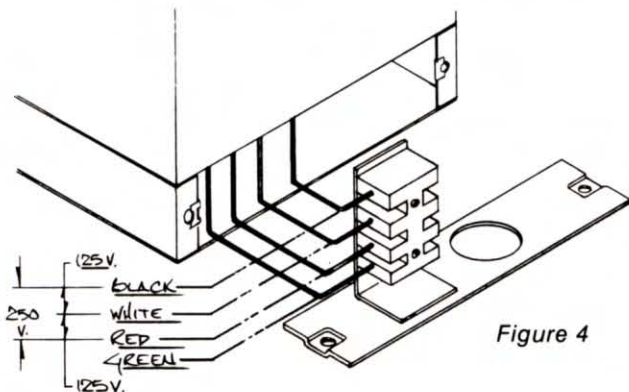

Figure 4
NOTE: Line connections to machine must conform to local codes. See Figure 4, and wiring note.
2. For units requiring electrician installed power cord, remove two (2) screws from rear access panel of brewer for access to the installation junction block. All wiring must be in accord with local electrical codes. See Figure 4.